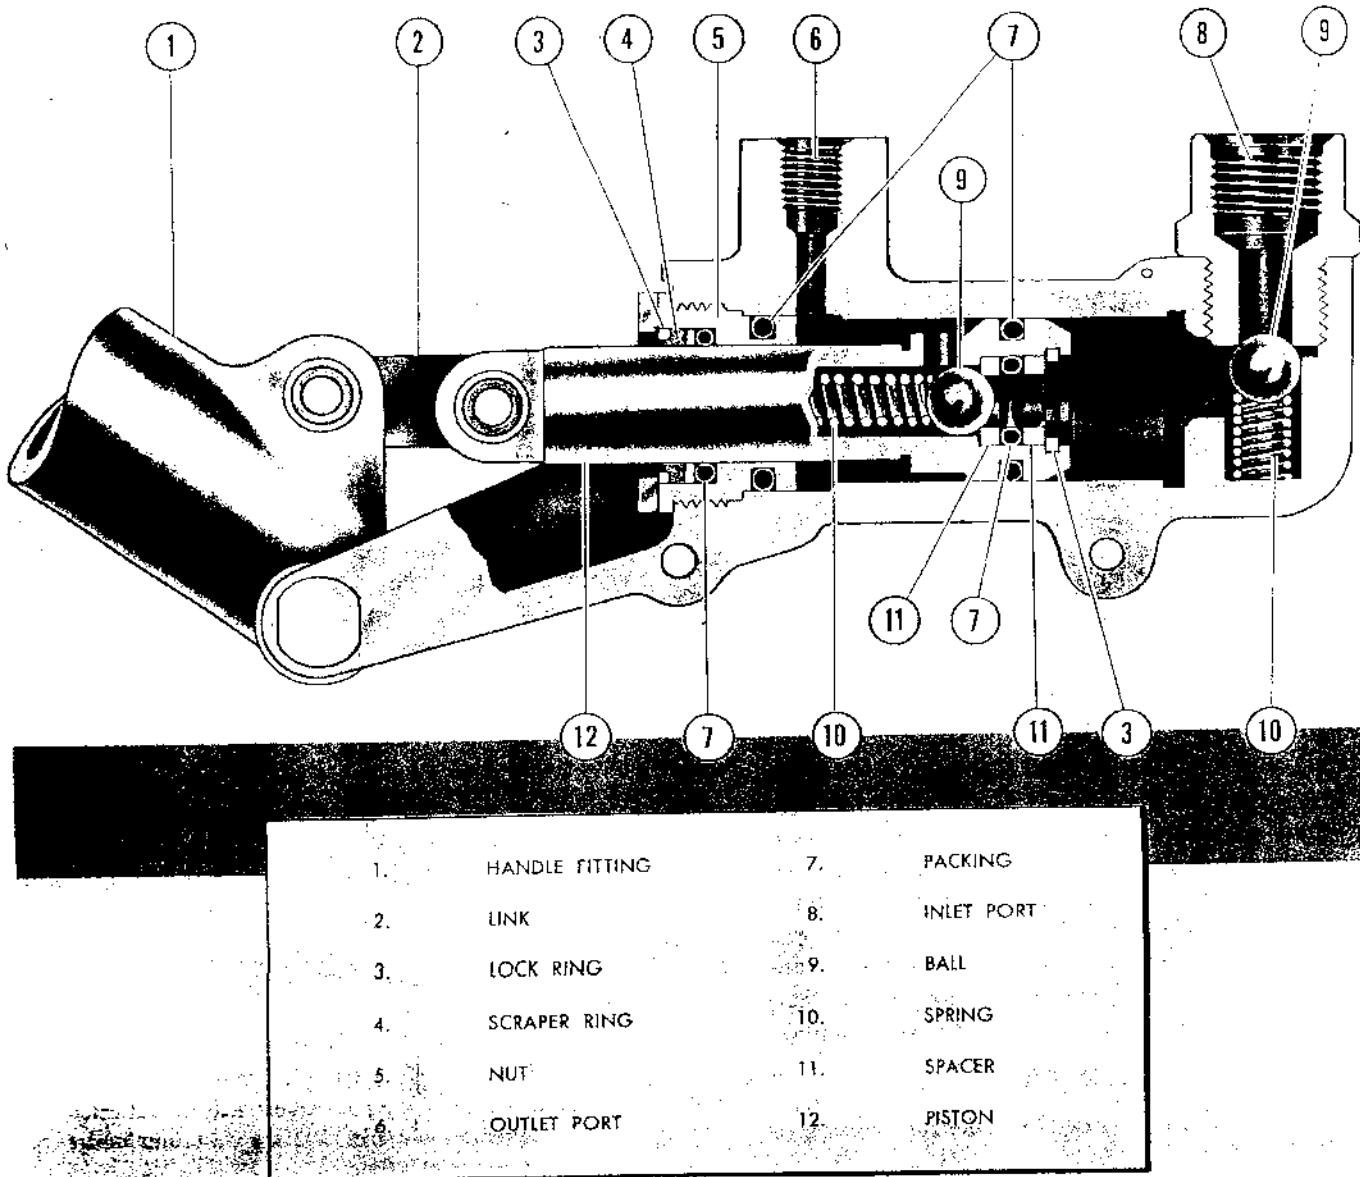

Figure 162 — Hydraulic Hand Pump
(4) HAND PUMP. (See figure 162.)